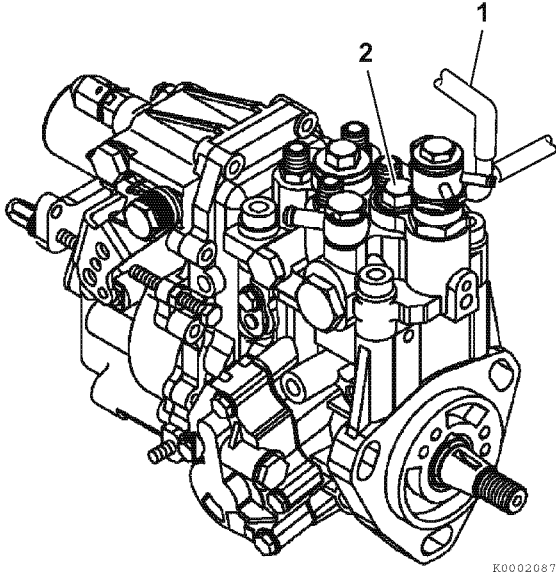

Figure 7-41
2. Clamp shut the fuel injection pump fuel return hose leading to fuel filter (Figure 7-41, (1)).
3. Remove the forward fuel injection pump plunger plug (Figure 7-41, (2)) on the top of the fuel injection pump.